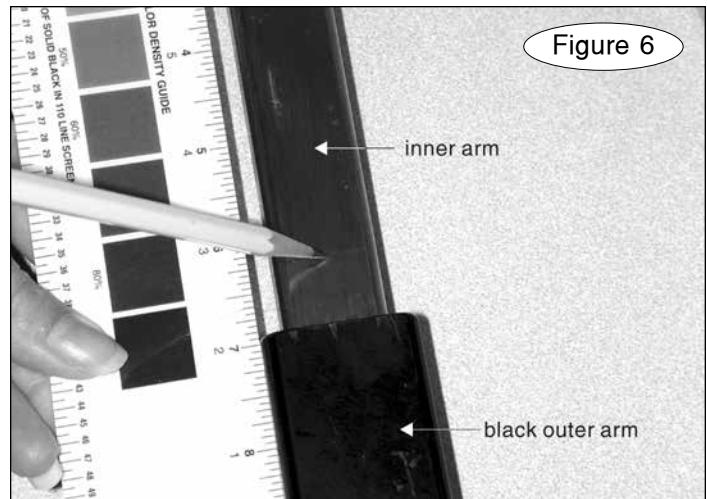

Figure 6
Turn the tow bar arm over and move the inner arm forward or backward slightly, if necessary, until the button stem drops through the hole in the outer arm. Then, draw a straight line with a pencil across the bottom of the inner arm (Figure 6), 3/4" from the edge of the outer arm.
3. With the arms fully extended and locked, draw a straight line with a pencil across the top of the inner arm (Figure 6), 3/4" from the edge of the black outer arm (Figure 6).